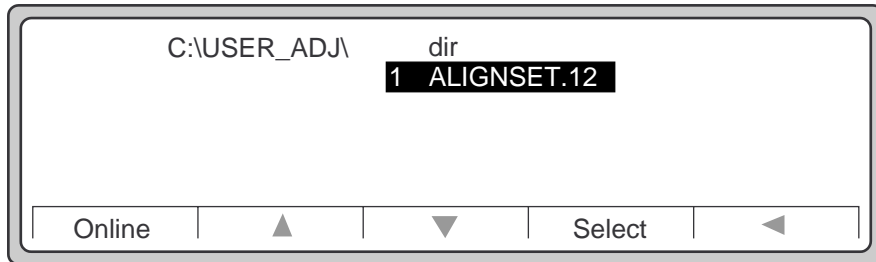

Figure 2-95 1 ALIGNSET.*
- The number **1** appears in front of the **ALIGNSET.*** message, as shown in Figure 2-95.